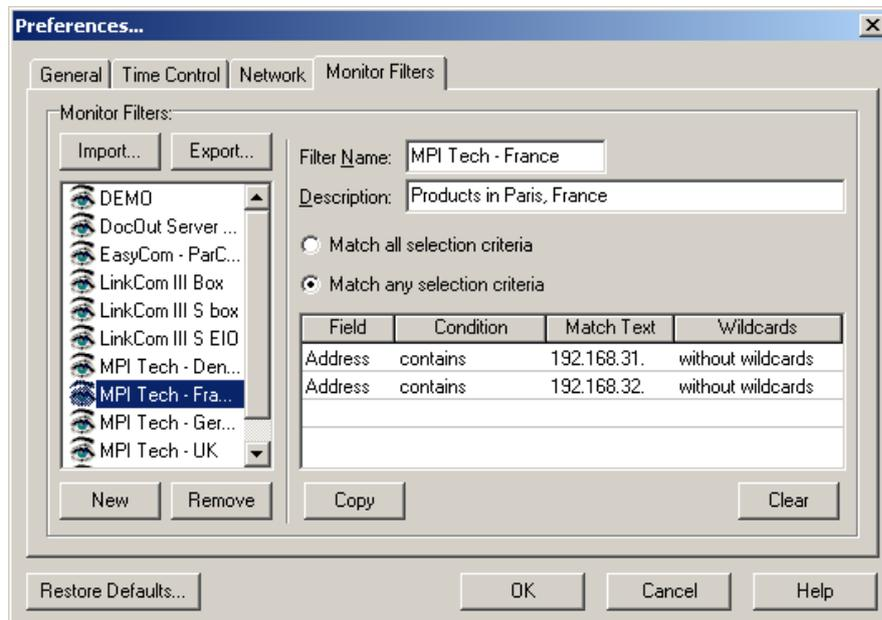

Figure 2
1. Press the Monitor Filter Preferences button , or click **Preferences** on the Options menu. A dialog is displayed asking you whether you want to import a few demonstration filters that illustrate how you can use filtering. If you select **Yes** (they can be removed later), the **Preferences** dialog's **Monitor Filters** tab is displayed as shown in Figure 2: